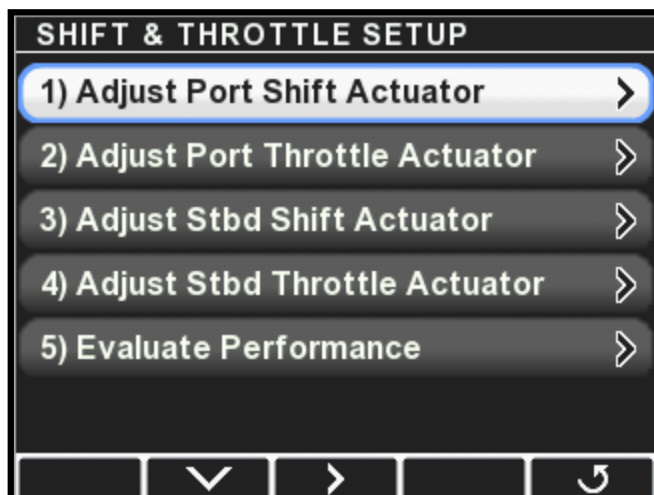

Figure 4-1. Shift and throttle setup screen.
4. Navigate to **Dealer Menu > Initial Setup > Shift & Throttle** to get to the Shift & Throttle Setup menu (figure 4-1).